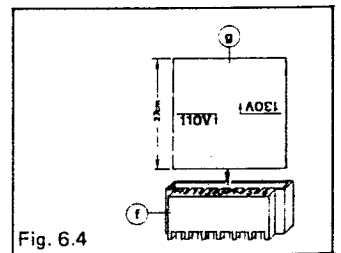

Fig. 6.4
- Position the p. c. board ③ so that the imprint of the intended mains voltage (e. g. 110 V a. c.) appears above the 1 on the plug-in socket ④ (Fig. 6.4).
- Insert p. c. board ③ and reassemble the casing.